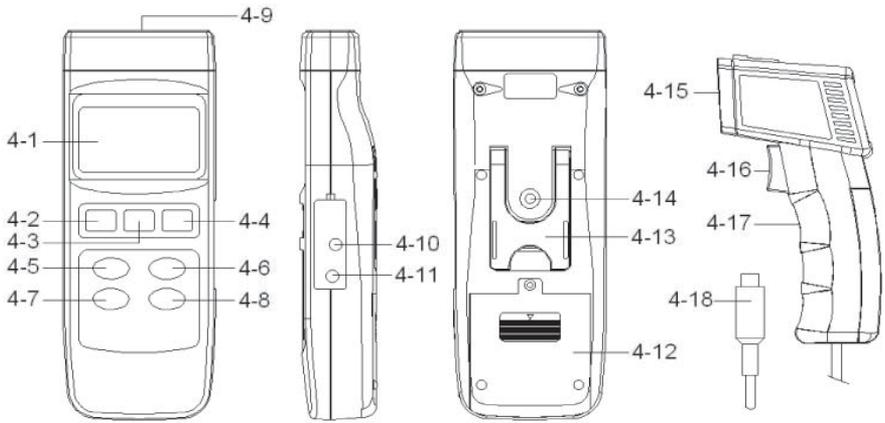

Fig. 1
1. Connect the “Probe Plug” (4-17, Fig.1) to the “Input Socket” (4-9, Fig.1).
2. Power the meter on by pressing the “Power Button” (4-2, Fig.1). The display will show zero values.
3. Use the “Probe Handel” (4-17, Fig.1) to position the “Color Sensor Element” (4-15, Fig. 1) over the color to be measured. Ensure that the front of the color sensor head is flush with the surface.
3. Press the “Light On/Off Button” (4-8, Fig. 1).
4. Use the “Probe Handel” (4-17, Fig.1) to position the “Color Sensor Element” (4-15, Fig. 1) over the color to be measured. Ensure that the front of the color sensor head is flush with the surface.
5. If the LEDs near the “Color Sensor Element” (4-15, Fig. 1) turn on then the meter is set to still measure non-light emitting samples. Press the “Light On/Off Button” (4-8, Fig. 1) to turn off the LEDs.
1. For RGB measurements follow steps from section 4-2 and then press the “Measurement Trigger” (4-16, Fig. 1) or the “Test Button” (4-3, Fig. 1).
2. Continue to hold the “Color Sensor Element” (4-15, Fig. 1) in place while the meter makes its measurement. During the measurement you will see the “Mesu” marker on the top of the LCD. The measurement process takes approximately 5 seconds.
1. For HSL measurements follow steps from section 4-4, then press the “RGB/HSL Button” (4-7, Fig. 1). This will display the HSL values. A separate measurement is not necessary.
2. You toggle between values by pressing the “RGB/HSL Button” (4-7, Fig. 1).
1. After a measurement has been made, press the "REL Button" (4-6, Fig.1) and the LCD should display all zeros.
3. Press the "REL Button" (4-6, Fig.1) to exit the REL mode.
3. Place the "Color Sensor Element" (4-15, Fig. 1) over the White Card making sure that it is flush with the card surface.
4. Simultaneously press the "Function Button" (4-4, Fig. 1) and the "CAL Button" (4-5, Fig. 1) then release the buttons to commence calibration. It is important to keep the probe in place during the entire process.
This instrument has RS232 PC serial interface via a 3.5 mm terminal (4-12, Fig. 1).
2. Open the "Battery Compartment" (4-12, Fig. 1) by first loosening the single battery cover screw.
3. Replace the batteries with "good" batteries noting the correct polarity. Replace "Battery Compartment" (4-12, Fig. 1) and battery cover screw. Ensure the cover is securely fastened.
1. If during a "Non-Light Emitting Sample Measurement" the meter displays unusually low RGB values, check and make sure both LEDs are turning on when you press the "Measurement Trigger" (4-16, Fig. 1) or the "Test Button" (4-3, Fig. 1).